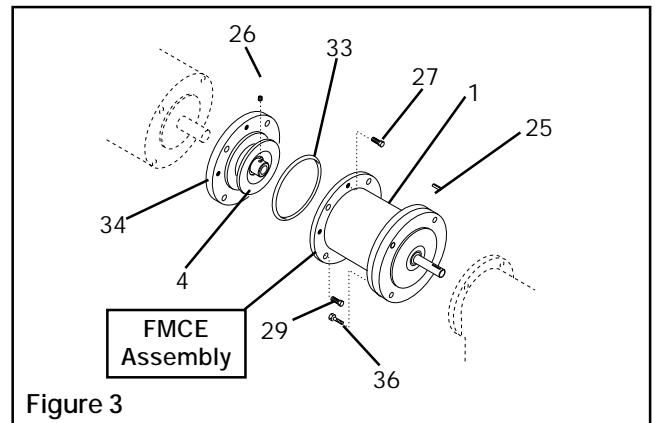

Figure 3
1. Remove the eight Hex. Head Cap Screws (Item 27); then, separate the Female Pilot (Item 34) and Drive Disc (Item 4) from the FMCE Assembly (See Figure 3).
3. Slide the Female Pilot (Item 34) and the Drive Disc (Item 4) onto the motor shaft (See Figure 3).
4. Tighten the Set Screw (Item 26) to lock the Drive Disc (Item 4) onto the motor shaft (See Figure 3).
5. Coat the O-ring Seal (Item 33) and the seal contact surface with a film of O-ring lubricant, then wipe off any excess lubricant (See Figure 3).
6. Place the O-ring Seal (Item 33) onto the Female Pilot (Item 34) O-ring diameter (See Figure 3).
7. Slide FMCE Assembly onto the Female Pilot (Item 34) and the Drive Disc (Item 4) (See Figure 3).
8. Using eight Nexen supplied 10-24 x 0.75" Hex. Head Caps Screws (Item 27), secure the FMCE Assembly to the Female Pilot (Item 34) and Drive Disc (Item 4) (See Figure 3).
10. Using four Nexen supplied 0.375-16 x 1.5" Hex. Head Cap Screws (Item 29), secure the Female Pilot, Drive Disc, and FMCE Assembly to the motor (See Figure 3).
13. Using four supplied 0.375-16 x 1.25" Hex. Head Cap Screws (Item 36), secure the Male Pilot end of the FMCE Assembly to the gear reducer (See Figure 3).
4. Slide the Female Pilot (Item 26) and Drive Disc (Item 4) onto the Input Unit shaft (See Figure 3).
9. Slide O-ring Seal (Item 33) onto the seal diameter of the Female Pilot (Item 26) (See Figure 3).